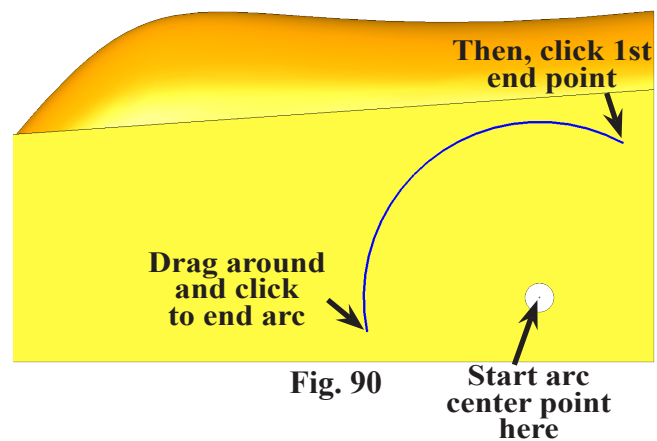

Fig. 90
Step 4. Click **Centerpoint Arc**  (S) in the **Arc flyout**  on the Sketch toolbar.
Step 5. Click the centerpoint of rear axle hole to start the arc and move the cursor to the upper right. Click to place the first end point of arc, then move cursor counterclockwise. Click to place the second end point, **Fig. 90**.
Step 6. Click **Smart Dimension**  (S) on the Sketch toolbar.